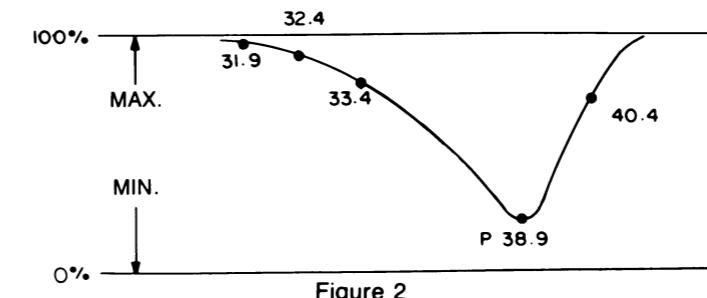

Figure 2
b) Adjust L103(Detection Special Quality Adjustment Coil) in order to minimize the PICTURE CARRIER MARK as shown in figure 2.